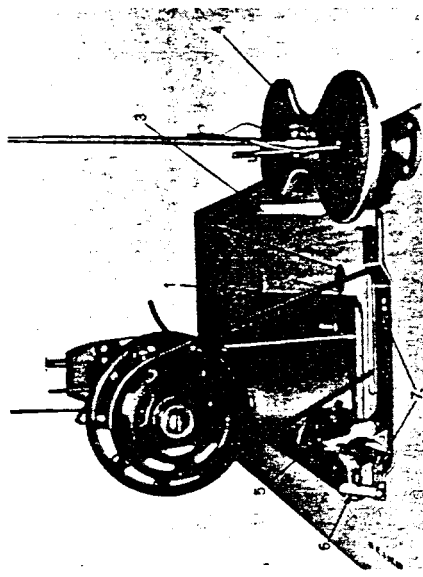
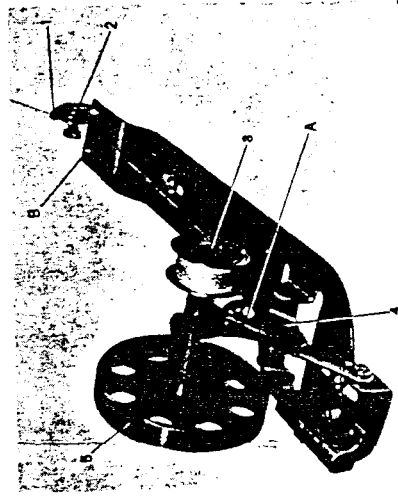

Fig. 2 To install the machine on the table
Fig. 15
### WINDING BOBBINS (Figs. 2 and 15)
The bobbin winder is mounted on the table top with its pulley (5, Fig. 2) in front of the driving belt so that the pulley will separate from the belt after the bobbin has been wound with sufficient thread, push the bobbin on the bobbin spindle (3 Fig. 15) as far as it will go.
Pass the thread from the thread stand downward through the eye (1, Fig. 15) in the tension bracket.
Then, between and around the back of the tension discs (2 Fig. 15) bring the thread forward toward the bobbin and wind from below in clockwise direction several times around the bobbin. Push bobbin winder lever (4, Fig. 15) downward until the wheel (5) contacts the drive belt and start the machine.
The adjusting screw (A, Fig. 15) can be turned in or out to increase or decrease the amount of the thread wound on the bobbin.
If the thread does not wind evenly on bobbins, loosen the screw (B, Fig. 15) and move the bracket to the right or left as may be required and tighten the screw.